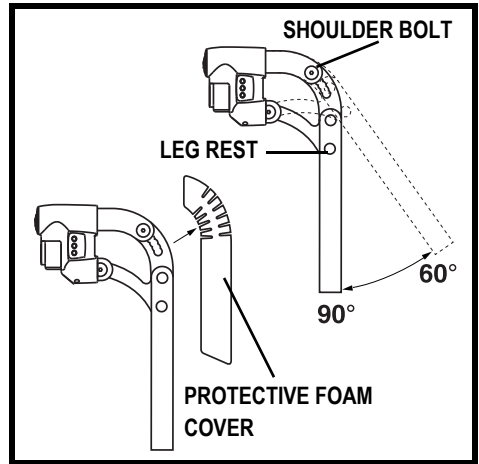

Figure 5. Swing-away 60° - 90° Leg Rests
1. Remove protective foam cover. See **figure 5**.
2. Remove shoulder bolt. See **figure 5**.
4. Reinstall the shoulder bolt. See **figure 5**.